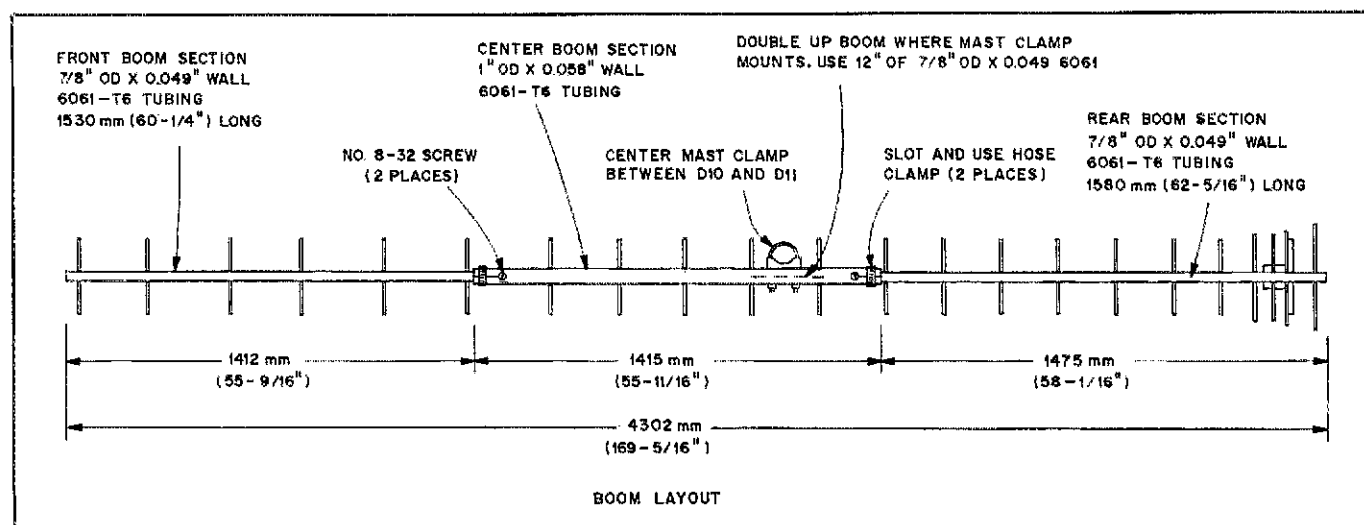

Fig 6—Boom-construction information for the K1FO 22-element Yagi. Lengths are given in millimeters to allow precise duplication of the antenna. See text.
Fig 6 shows the boom layout. Round aluminum tubing of 7/8-inch and 1-inch outer diameter (OD) was chosen carefully to provide the highest possible boom strength, while maintaining low wind load
The boom materials shown in Fig 6 have been chosen for good strength versus weight. I recommend 0.049-inch-wall tubing for the 7/8-inch boom sections. Tubing with a 0.058-inch wall is suitable, but it is slightly heavier. The 1-inch center section should be 0.058-inch-wall tubing so that the end pieces telescope properly, with a minimum of slack. If a single mast clamp, mounted through the boom, is used, put a short piece of 7/8-inch tubing inside the center section where the mast clamp attaches. This doubles the wall thickness for extra strength. My array of 12 22-element Yagis has already survived 1/2-inch ice loading in combination with winds stronger than 40+ mi/h.